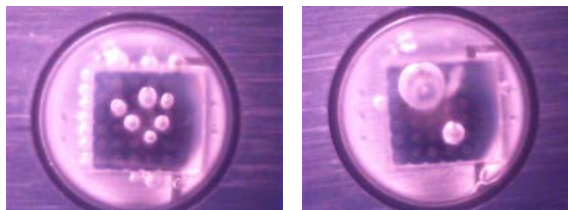

FIG 9. Examples of bubble formation due to failure to follow the above instructions.
- When soldering, do not use a none calibrated hot plate. A convection type reflow oven is preferred. (Fig 9.)